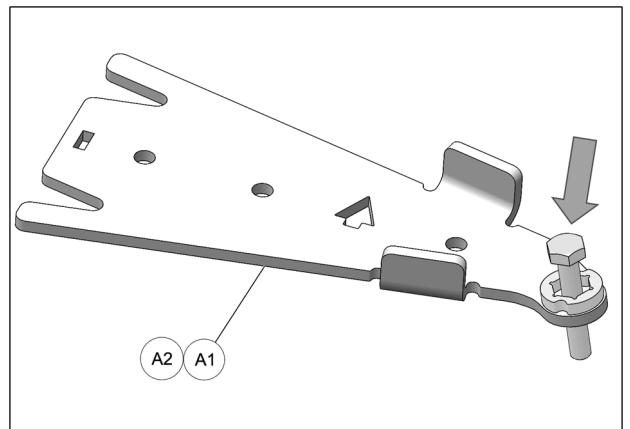

Fig. 16
4. Insert bolt in front anchor brackets (A1-A2) as shown in Fig. 16